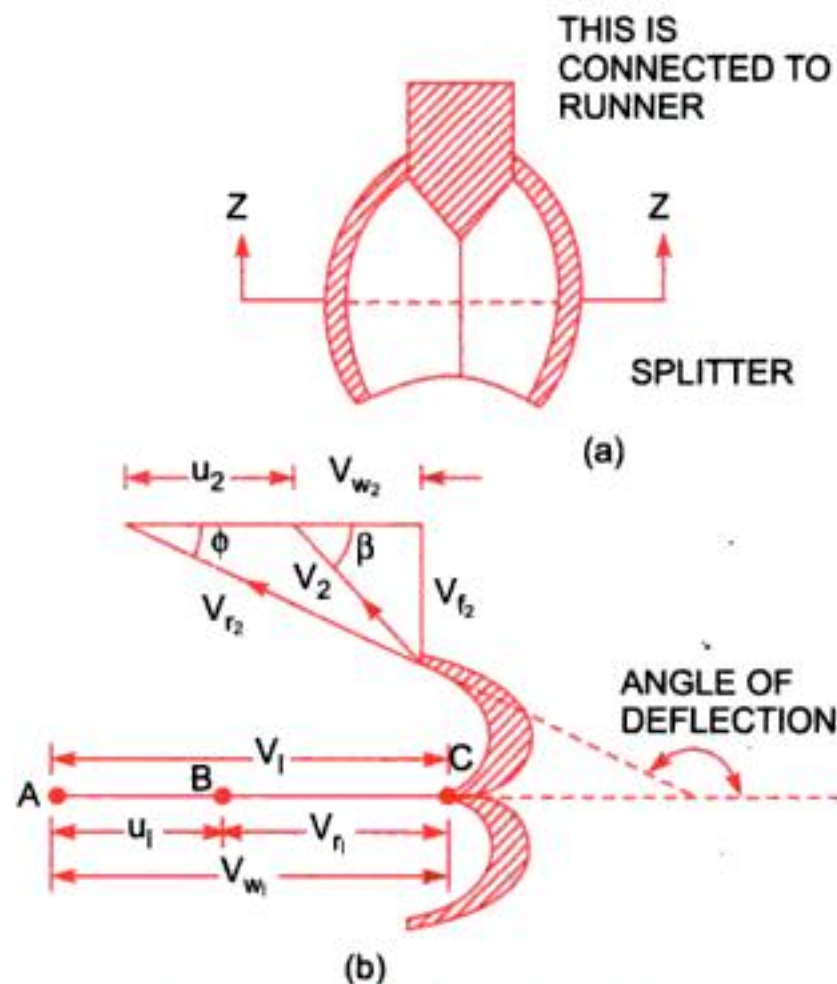

Fig. 18.5 Shape of bucket.
**18.6.1 Velocity Triangles and Work done for Pelton Wheel.** Fig. 18.5 shows the shape of the vanes or buckets of the Pelton wheel. The jet of water from the nozzle strikes the bucket at the splitter, which splits up the jet into two parts. These parts of the jet, glide over the inner surfaces and comes out at the outer edge. Fig. 18.5 (b) shows the section of the bucket at z-z. The splitter is the inlet tip and outer edge of the bucket is the outlet tip of the bucket. The inlet velocity triangle is drawn at the splitter and outlet velocity triangle is drawn at the outer edge of the bucket, by the same method as explained in Chapter 17.